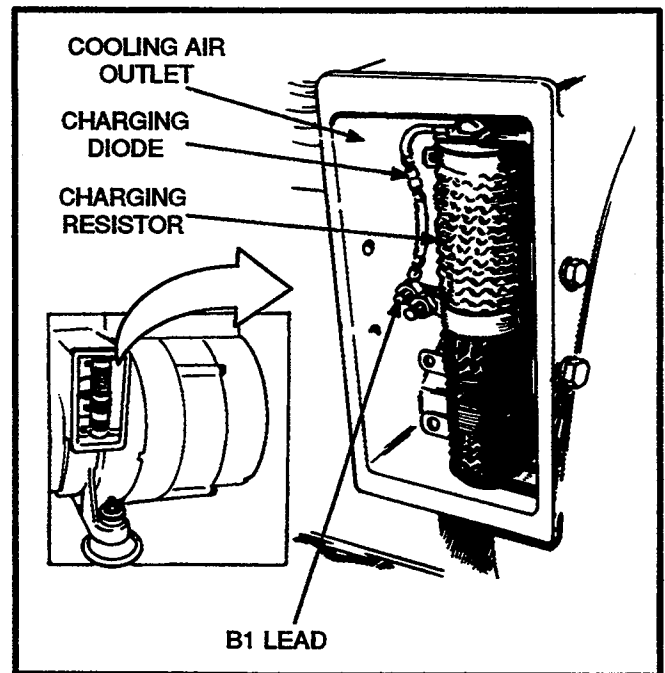

FIGURE 5-12. B1 LEAD LOCATION
6. Remove B1 lead from tapped adjustable resistor in generator air outlet opening (Figure 5-12).